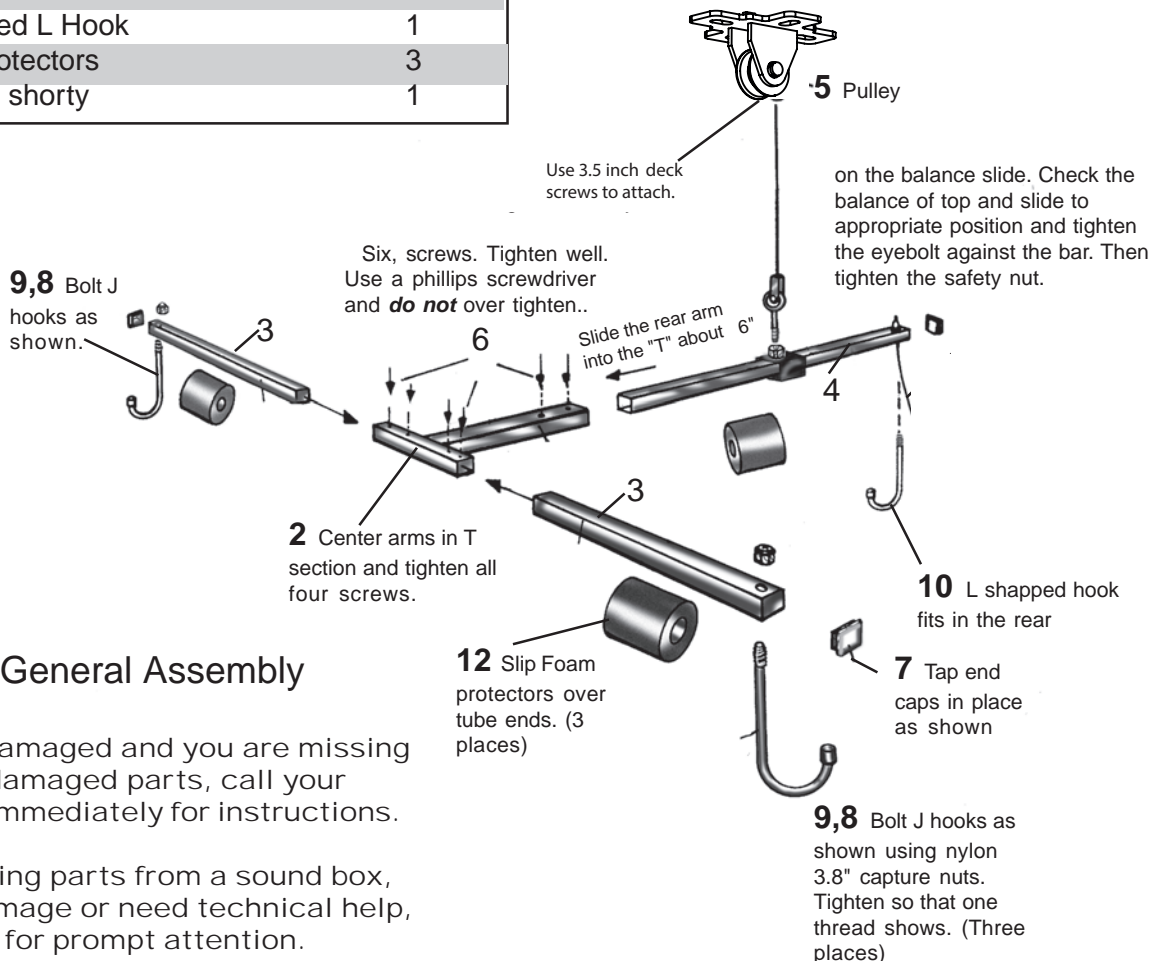

Fig. 1 General Assembly
- 2 Assemble the hoist frame as shown in Figure 1. Position the Slide on the long bar and center approximately as shown. Put the shorty eye bolt with nut on the slide and tighten lightly. Leave the lock nut loose for now. Setting the Balance Slide will follow.
Slip all Round Protectors on to the frame as shown in Figure 1 and seat the End Caps on each end of the frame arms. Attach Hooks with the nylon nut and tighten until one thread shows at the top of the nut. The "L"-shaped hook goes at the back.